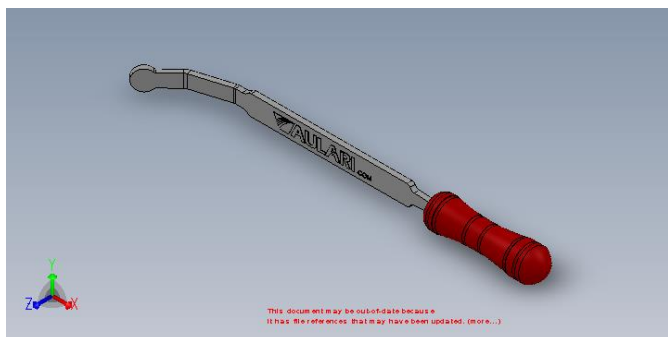
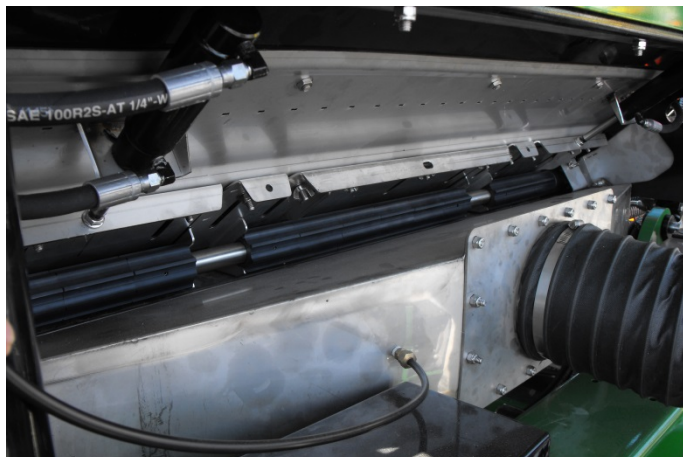

Figure 21
Figure 22B
8. Make regular visual inspection of the distribution system, metering shaft and air box. Clean the metering roll splines, if necessary, with the scraper designed for this purpose [Figure 21].
Keep the flutes of the metering roller clean of residue during use [Figure 22B]. The accumulation of fertilizer on the flutes will effectively reduce the amount of fertilizer applied to the field. Use scraper provides for this purpose for maintenance [Figure 21].